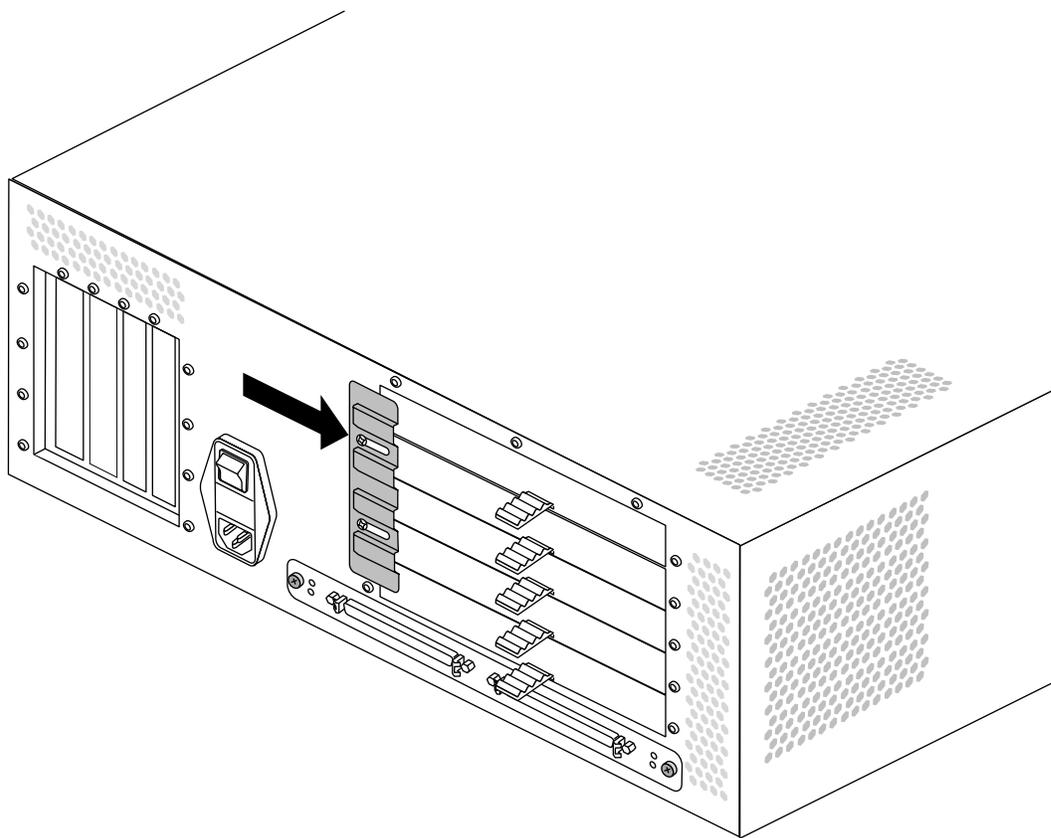

Figure 2-24 Sliding the XIO Board Retaining Plate Over the XIO Slots
6. Slide the retaining plate away from the power switch so that it overlaps the XIO slots, as shown in Figure 2-24.